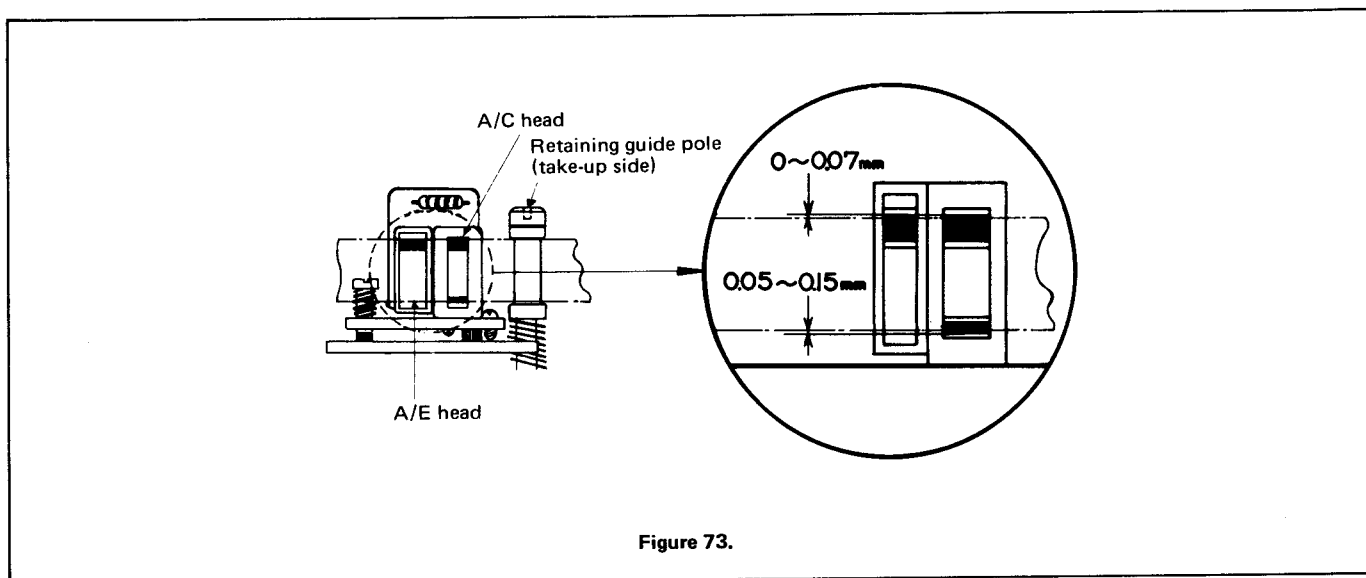

Figure 73.
3. See that the A/C head (with A/E head included) is positioned at the height and tilted, as shown in Fig. 73.
5. The A/C head shall be positioned with its height as shown in Fig. 73, with respect to the tape in motion.